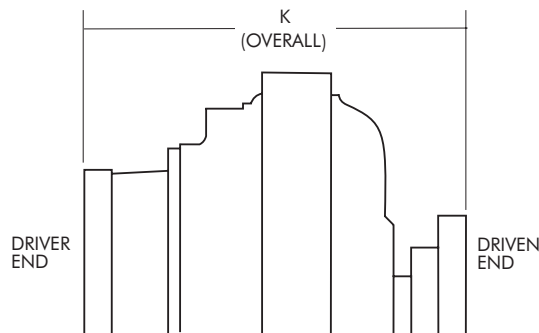

Figure 3
- Mount the fluid coupling as shown in Figures 3 & 5, the output adapter side of the coupling must be connected to the driven equipment. Attaching the output adapter side of the fluid coupling to the driver (usually a motor) will result in degraded performance, or in some cases inadequate performance.
- B. Determine required distance between shaft ends (BE) by accurately measuring distance “K” as shown in Figure 3 and adding to that value the appropriate addition: Type G, Sizes 1010, 1025 and 1030 add .060" (1,52 mm); Sizes 1015 and 1020 add .020" (0,501 mm); Sizes 1035 and 1040 add .120" (3,05 mm); Sizes 1045 and 1050 add .180" (4,57 mm).